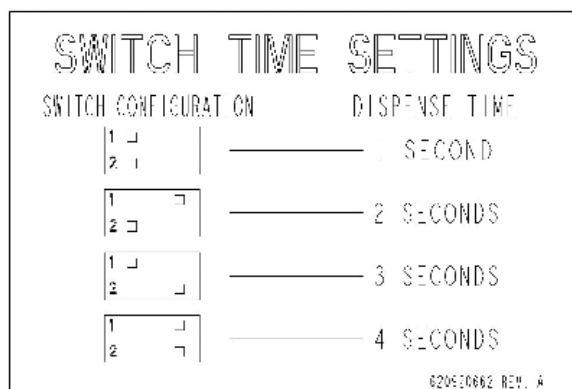

Figure 4.
11. It may be necessary to adjust the syrup flow rate. A 1 second shot = 1/2 oz. of syrup. Adjust the flow control screw on the appropriate solenoid to achieve this flow rate. The same procedure should be used for all four solenoids. If needed, remove the tower cover and locate the PCB board and adjust flavor shot dispense time, see Figure 4. Factory default setting is 1 second.